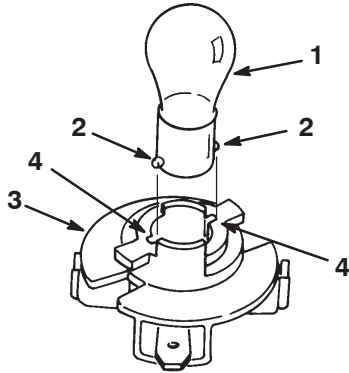

Figure 30
8. Push and rotate the bulb counterclockwise until it stops (approximately 1/4 turn) and remove the bulb from the bulb holder (Fig. 30).
1. The bulb has metal pins on the side of its base. Align the pins with the slots in the bulb holder and insert the base into the holder (Fig. 30). Push and rotate the bulb clockwise until it stops.